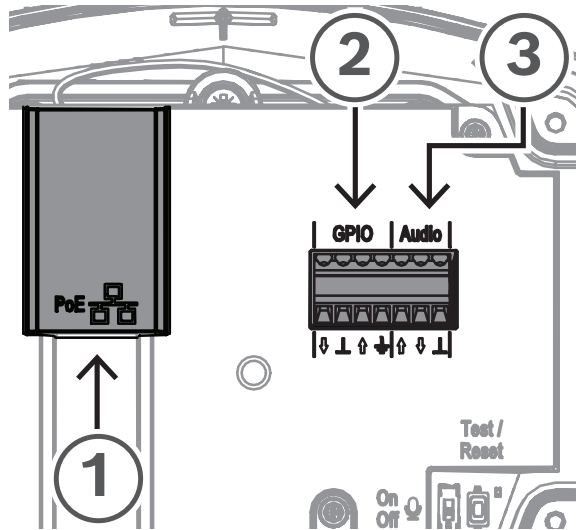

Figure 2.2: Back panel of the IP Horn loudspeaker (without the cover)
Connecting the network (Figure 2.2, callout 1)
4. Connect that end of the cable to the network port (Figure 2.2, callout 1).
Connecting the GPIO (Figure 2.2, callout 2)
Connecting the analog Audio (Figure 2.2, callout 3)
4. Connect the wires to the Audio terminal on the device (Figure 2.2, callout 3).